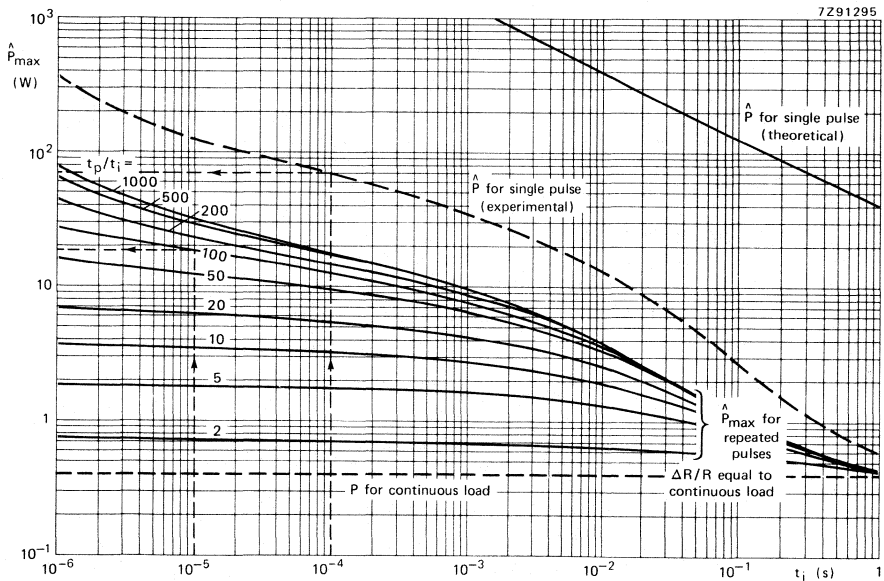
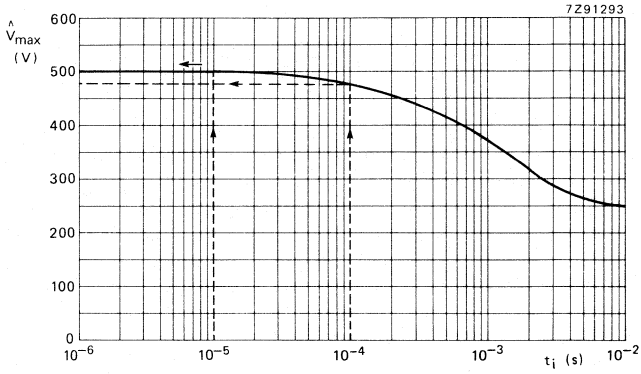

Fig. 1 Max. permissible peak pulse power ( $\hat{P}_{max}$ ) versus pulse duration ( $t_i$ ) for a typical resistor.
Fig. 2 Max. permissible peak pulse voltage ( $\hat{V}_{max}$ ) versus pulse duration ( $t_i$ ) for a typical resistor.
Knowing the thermal characteristics of a resistor, it is possible to calculate the load due to a single pulse which will cause a resistor to fail by going open circuit. This theoretical maximum can be expressed in terms of peak pulse power,  $\hat{P}$ , and pulse duration,  $t_i$ , the straight line in Fig. 1 is a typical example for a film resistor. In practice, however, owing to variations in the resistance film, substrate, or spiralling, resistors fail at loads less than this theoretical maximum; the dashed line in Fig. 1 shows the observed maximum for a resistor under single-pulse loading.
Using a computer program which takes account of all factors affecting resistor behaviour under pulse loads, curves similar to those of Fig. 1 are being produced for all our resistor ranges.
- $\hat{P}_{max}$  = max. permissible peak pulse power (see Fig. 1)
- $\hat{V}_{max}$  = max. permissible peak pulse voltage (Fig. 2)
The graphs of Figs 1 and 2 may be used to determine the maximum pulse loading for a resistor. The calculations assume:
- $\frac{\hat{V}_i^2}{R}$  must be lower than the value of  $\hat{P}_{max}$  given by the solid lines of Fig. 1 for the applicable value of  $t_i$  and duty cycle  $t_p/t_i$ .
- $\hat{V}_i$  must be lower than the value of  $\hat{V}_{max}$  given in Fig. 2 for the applicable value of  $t_i$ .
- $\frac{\hat{V}_i^2}{R}$  must be lower than the value of  $\hat{P}_{max}$  given by the dashed line of Fig. 1 for the applicable of  $t_i$ .
Fig. 1 gives  $\hat{P}_{\max} = 19 \text{ W}$  and Fig. 2 gives  $\hat{V}_{\max} = 500 \text{ V}$ . As the operating conditions  $\hat{P} = 16 \text{ W}$  and  $\hat{V}_i = 40 \text{ V}$  are lower than these limiting values, this resistor can safely be used.